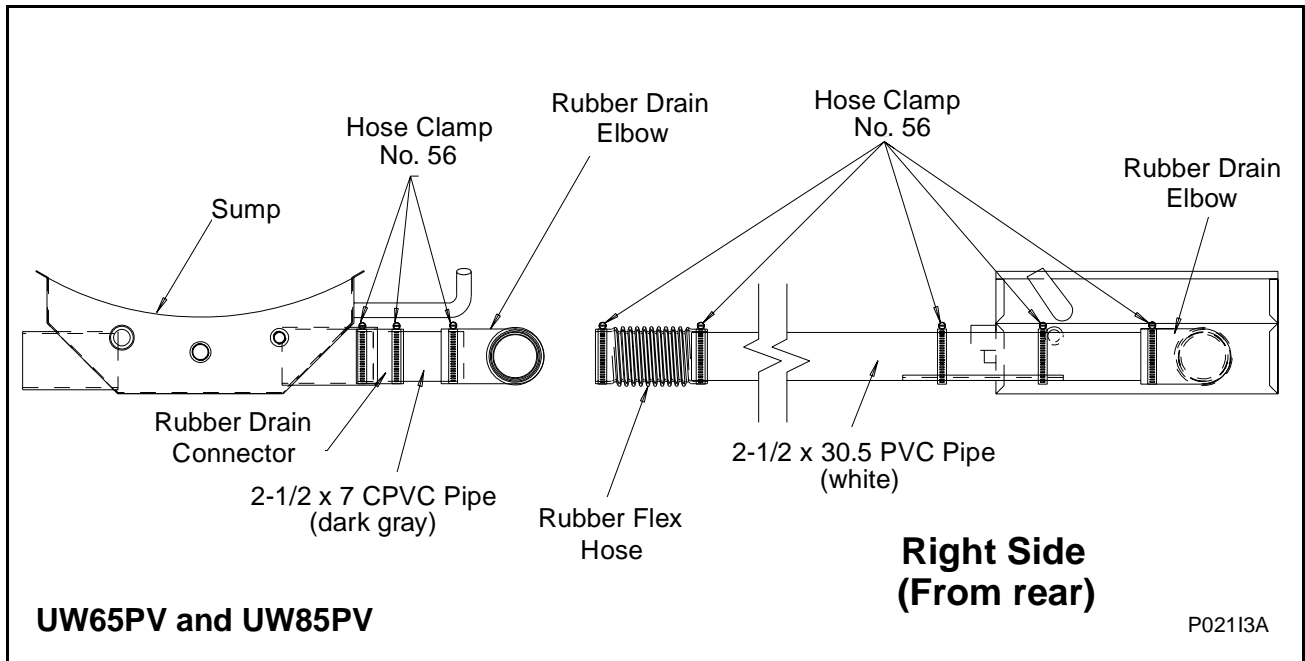

Figure 15
- Replace right drain valve with CPVC pipe (dark gray) included in the kit. See completed drain in Figure 15.